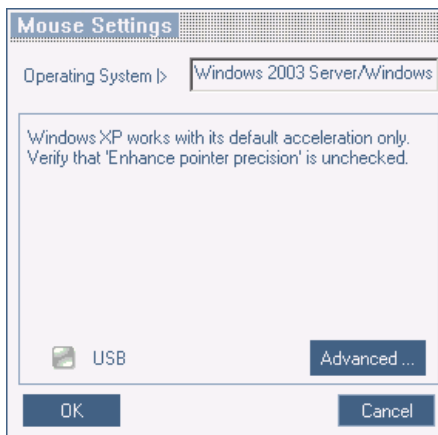

Figure 41 Mouse Settings box
1. From the Toolbar click  / **Manual Settings**. The **Mouse Settings** box appears see Figure 41.